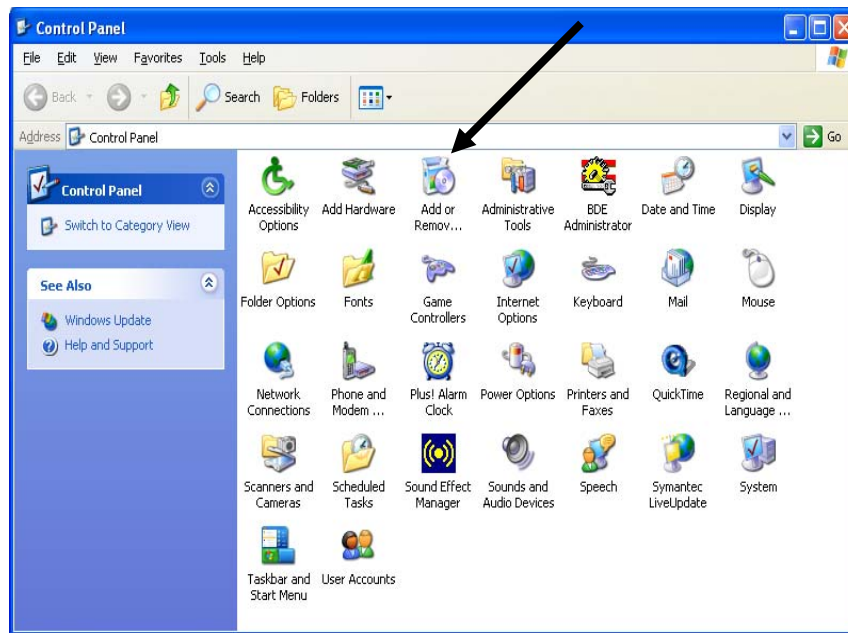

Figure 41
3. Double click the **Add/Remove Programs** icon (Figure 41).